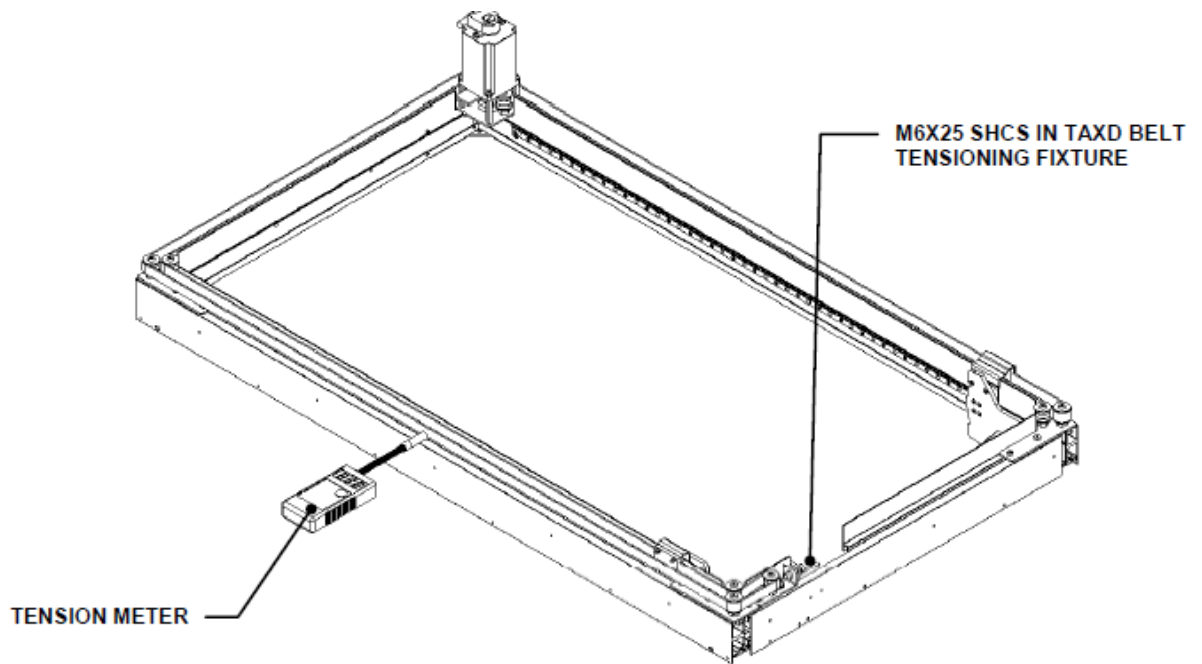

Figure X-18: Position of Tension Meter
8. Position the Tension Meter (Gates Sonic Tension Meter 507C) at the position shown in Figure X-18. The Tension Meter must be 3-6mm away from the belt to obtain a reading.